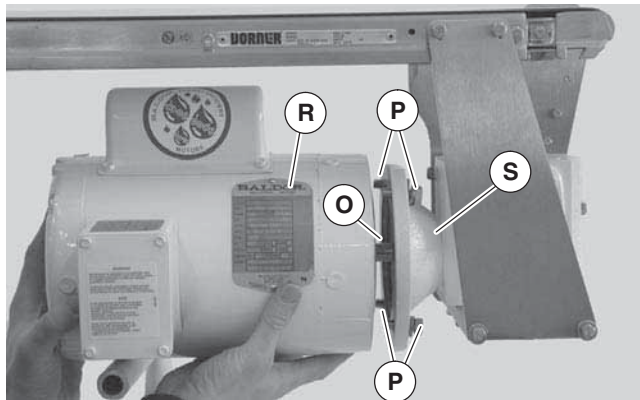

Figure 41
- With key (Figure 41, item O) in keyway, slide motor (R) and gear reducer (S) together. Install four lock washers and screws (P) and tighten.